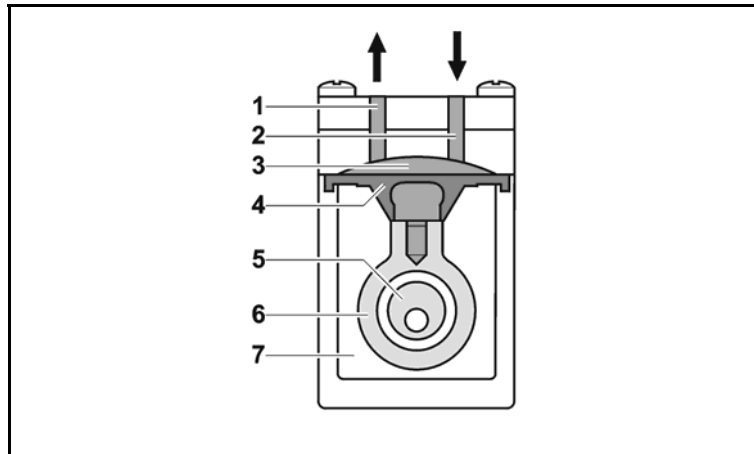

Fig. 2: Pump head
The elastic diaphragm (Fig. 2/4) is moved up and down by the eccentric (5) and the connecting rod (6). In the downward stroke it aspirates the gas to be transferred via the inlet valve (2). In the upward stroke, the diaphragm presses the medium out of the pump head via the outlet valve (1). The transfer chamber (3) is hermetically separated from the pump drive (7) by the diaphragm.